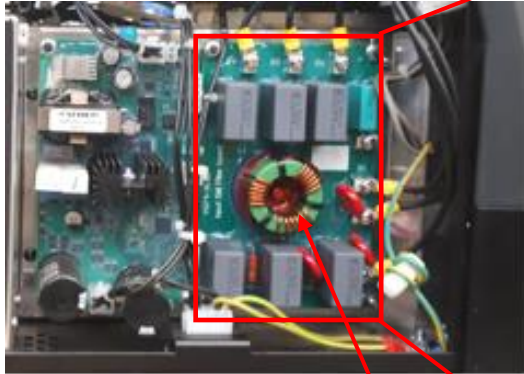

Figure 2
3. Locate the EMI filter board on the right side of the machine. **See Figure 2**